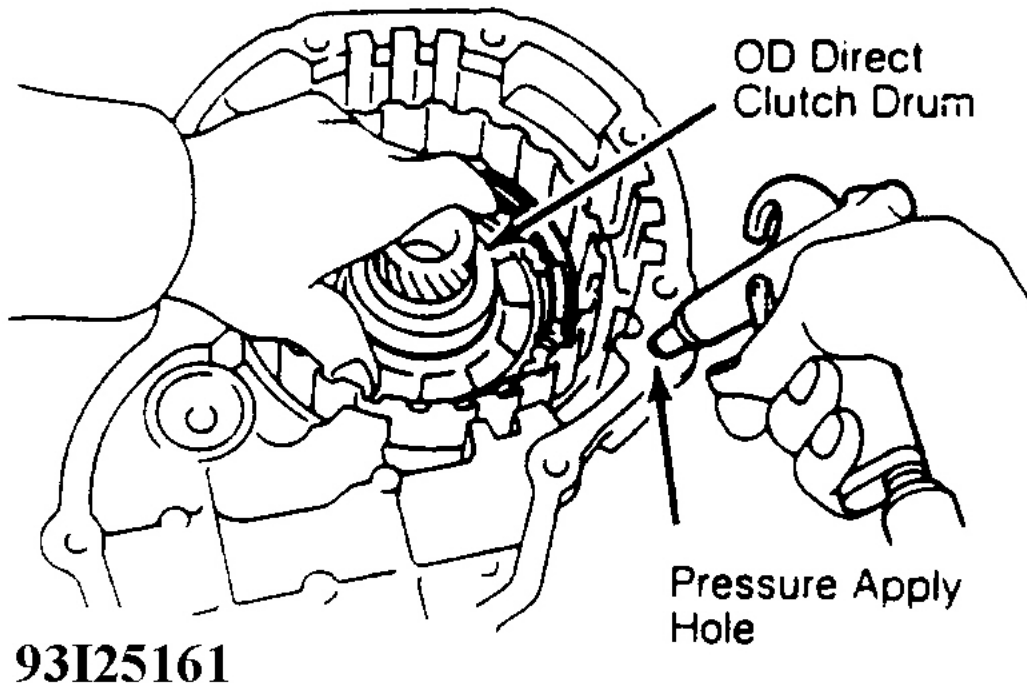

Fig. 39: Removing OD Direct Clutch From Case
3. Apply compressed air to pressure apply hole. Remove OD direct clutch drum from case. See **Fig. 39**. If piston does not completely come out, use needle-nose pliers to remove piston. Remove "O" rings from piston.